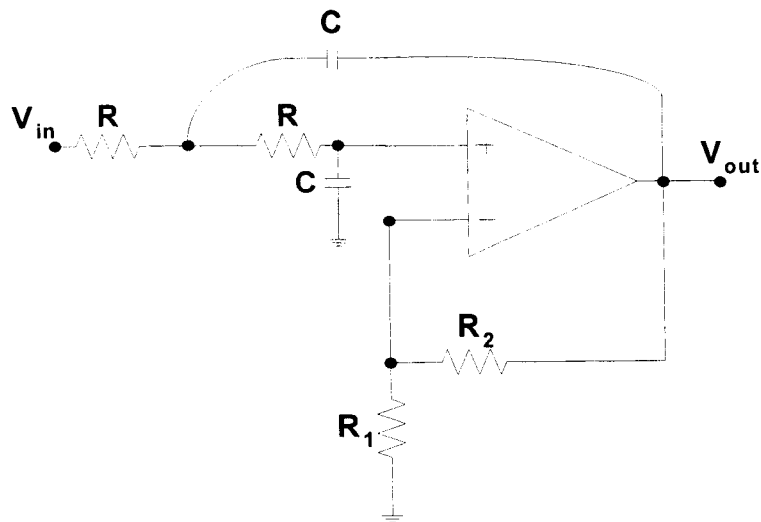

Figure 6.1
- c. Figure 6.1 illustrates a voltage-mode Sallen-Key biquad implemented by means of voltage amplifiers. Derive its current-mode equivalent. [2]